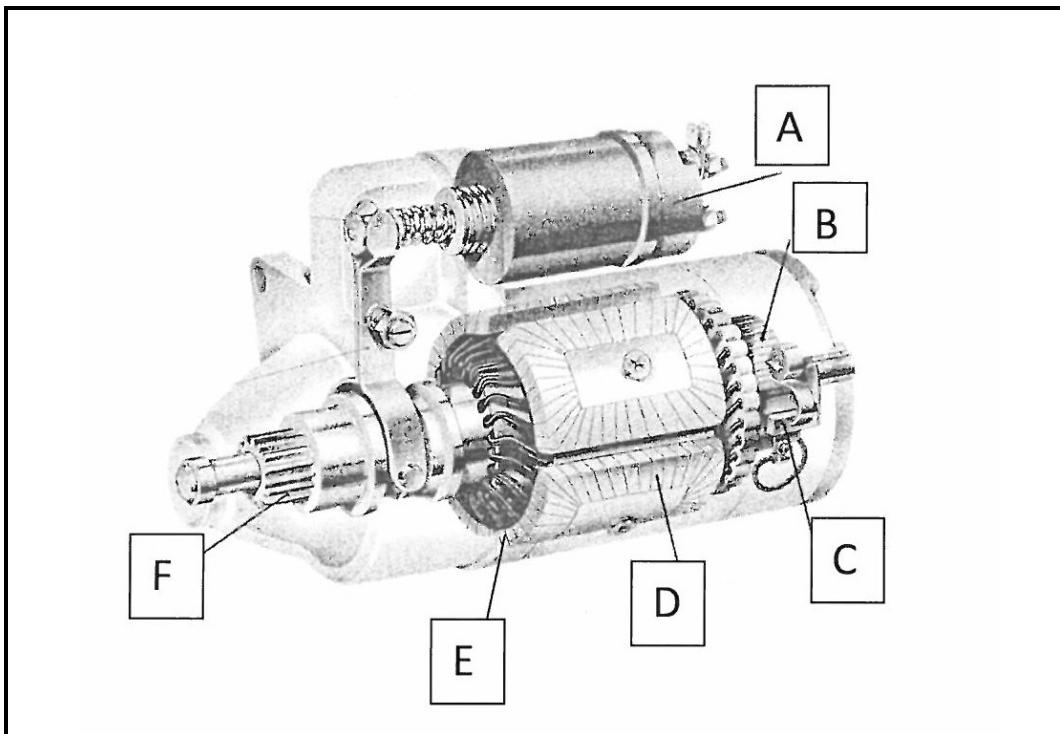

FIGURE 2
3.1 Label the parts of a starter marked (A–F) in FIGURE 2 below in the answer book.